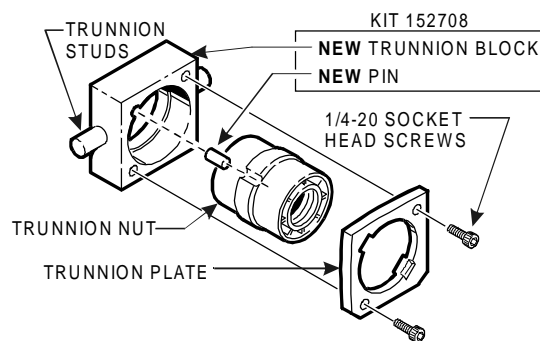

Figure 3
7. Replace the trunnion block with the new trunnion block and pin from the kit and assembly as shown (See Figure 3).